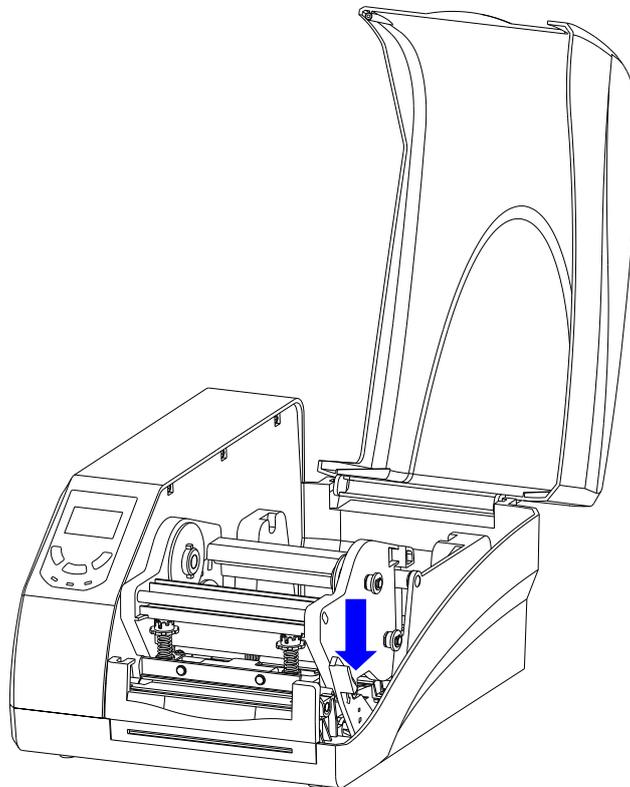

Figure 2-4 Release the Printhead Module
1. Lift the right cover and push down the Printhead Release Lever to release the Printhead Module, see Figure 2-4.